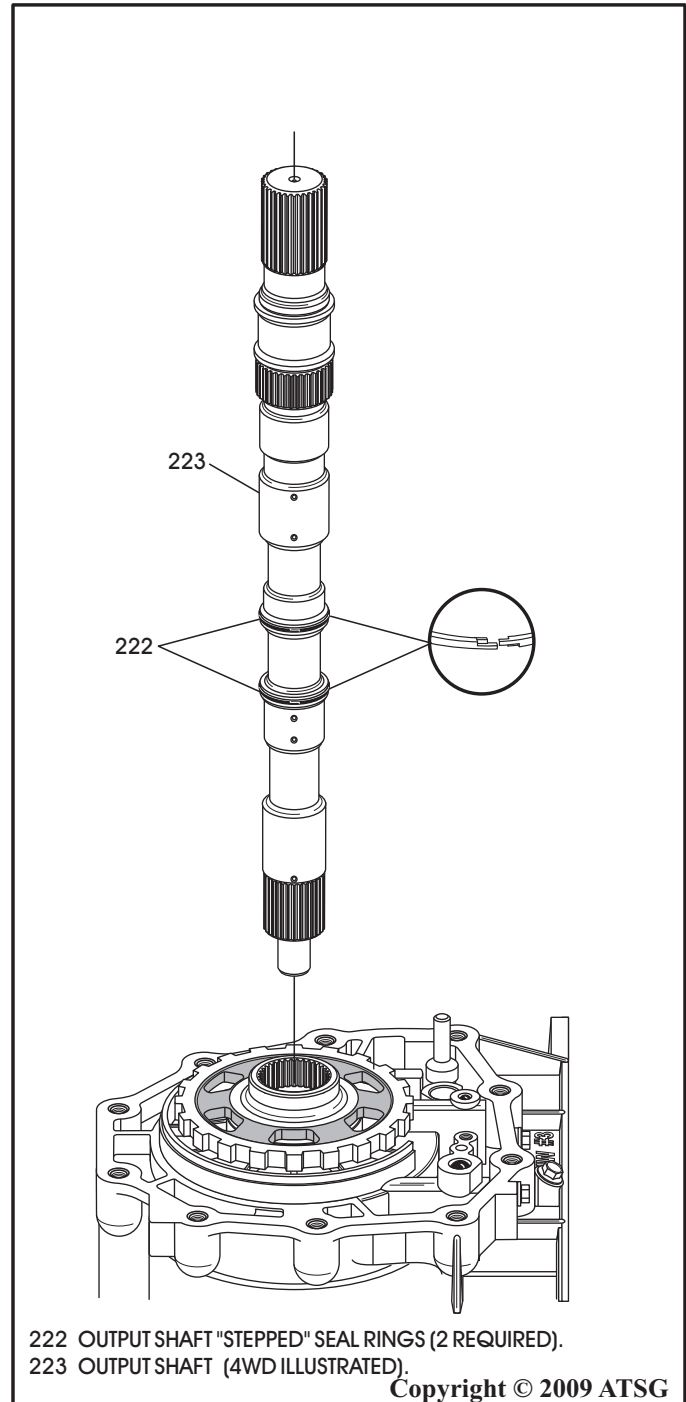

Figure 58
51. Remove the output shaft by rotating back and forth as you pull straight up, as shown in Figure 58.